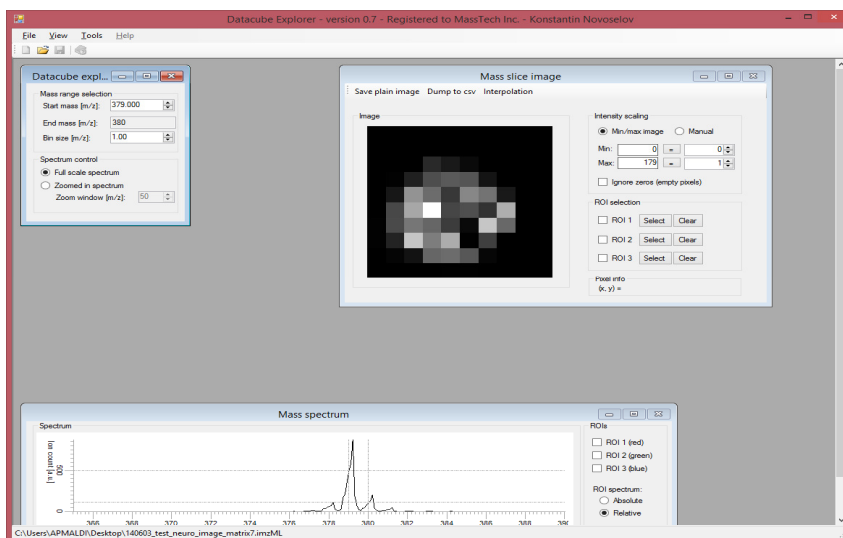

Figure 13 Datacube Explorer – Version 0.7
8. By changing the minimum/maximum value and selecting the appropriate m/z interval, the user's test data should look like in Figure 13.